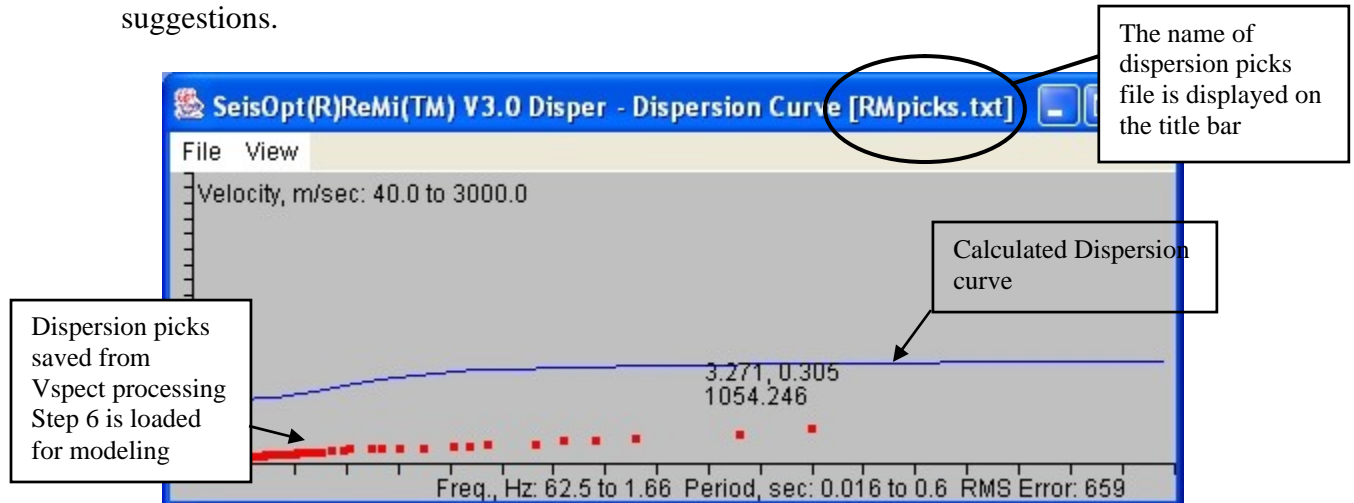

Figure 52: The dispersion picks are displayed as red filled squares in the 'Dispersion Curve' window.
3. The dispersion picks will now be displayed as red filled squares in the 'Dispersion Curve' window (Figure 52).